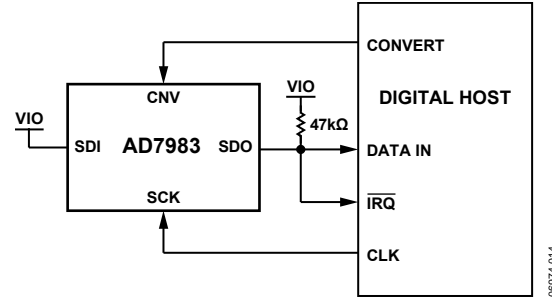
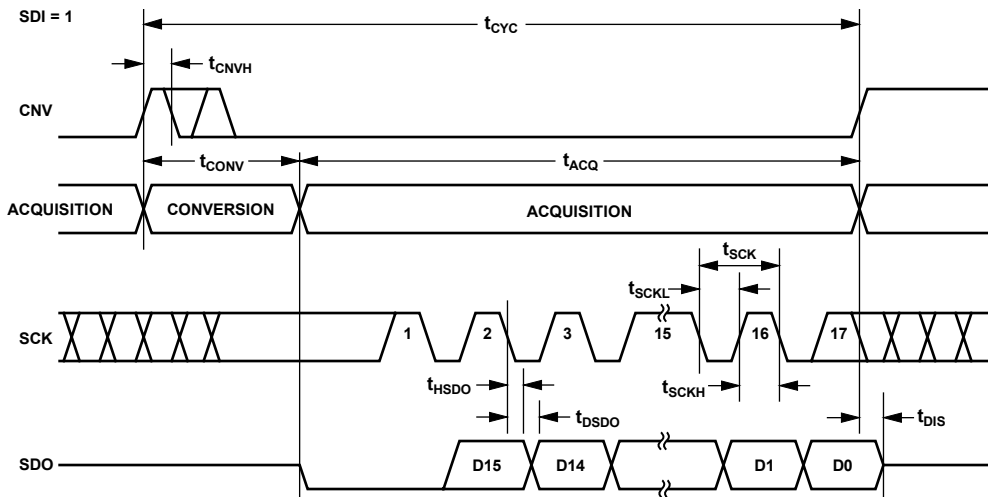
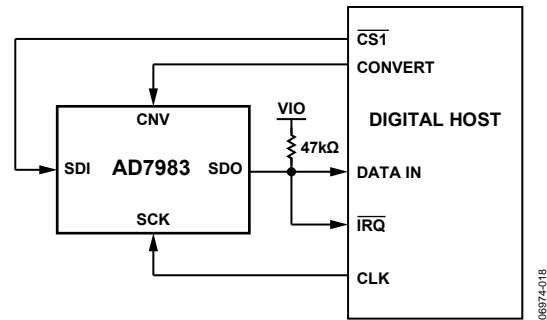
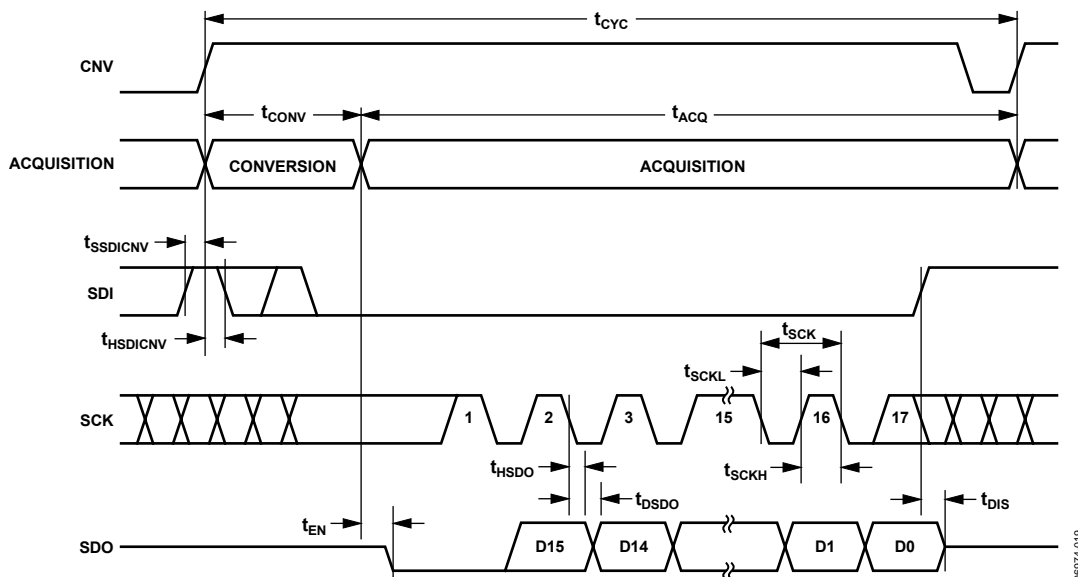

Figure 28. \overline{CS} Mode, 3-Wire with Busy Indicator Connection Diagram (SDI High)
Figure 29. \overline{CS} Mode, 3-Wire with Busy Indicator Serial Interface Timing (SDI High)
Figure 32. $\overline{\text{CS}}$ Mode, 4-Wire with Busy Indicator Connection Diagram
Figure 33. $\overline{\text{CS}}$ Mode, 4-Wire with Busy Indicator Serial Interface Timing
- In \overline{CS} mode if CNV or SDI is low when the ADC conversion ends (see Figure 29 and Figure 33).
The connection diagram is shown in Figure 28, and the corresponding timing is given in Figure 29.
The connection diagram is shown in Figure 32, and the corresponding timing is given in Figure 33.